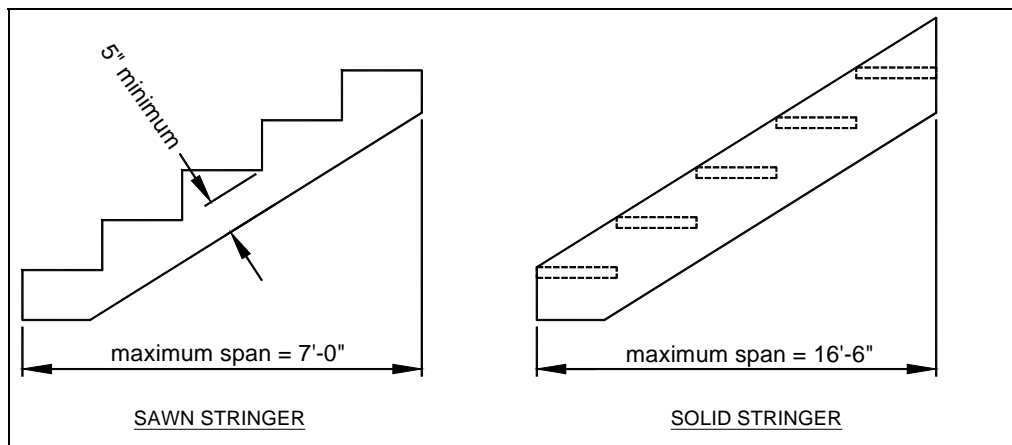

FIGURE 34: STAIR STRINGER REQUIREMENTS
- Measured horizontally, the maximum horizontal stringer spans shall not exceed the lengths shown in FIGURE 34.